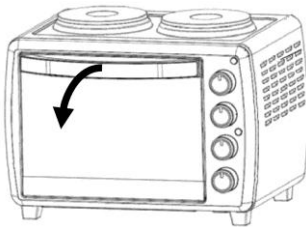
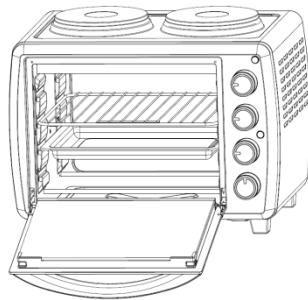

Fig. 8
Fig. 9
- How to open and close the door – See fig. 8 & 9
6. Open the oven door (fig 8) and place the food into the oven using the grill rack and / or baking tray (Fig. 9).